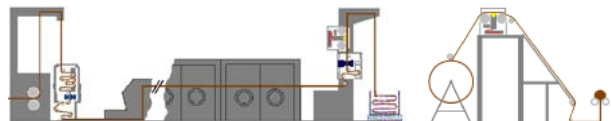

Fig.6: Final checkpoint
- c) Finished cloth checkpoint – documentation for customers (Fig.6)